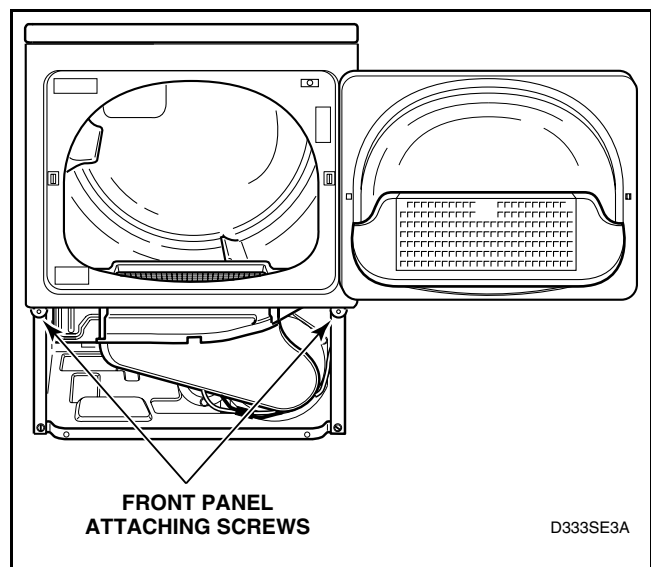

Figure 11
- k. Remove two screws holding bottom tabs on front panel to dryer cabinet. Swing front panel away from dryer to disengage hold-down clips and locators from cabinet top. Refer to *Figure 11*.
- j. Remove two screws holding bottom tabs on front panel to dryer cabinet. Refer to *Figure 11*. Swing front panel away from dryer to disengage hold-down clips and locators from cabinet top.
- k. Remove two screws holding bottom tabs on front panel to dryer cabinet. Refer to *Figure 11*. Swing front panel away from dryer to disengage hold-down clips and locators from cabinet top.